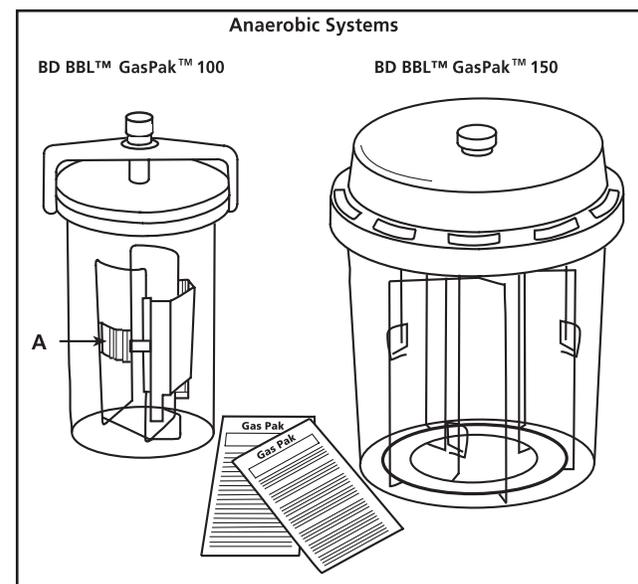

Figure 1
3. When using BD BBL GasPak Plus envelopes always use an anaerobic indicator (Cat. No. 271051). Place indicator strip in center of metal indicator holder (see Fig. 1,A) with indicator pad upright. Place the rack in the BD BBL GasPak jar. (**Note:** No indicator clip is available on the 150 rack.)
2. Place an anaerobic indicator in rack as described in Fig. 1 for BD BBL GasPak 100 and BD BBL GasPak 150 Anaerobic Systems, step 3. If using Dry Anaerobic Indicator Strips, dip indicator pad in water before placing in rack. Place the rack in the GasPak jar.